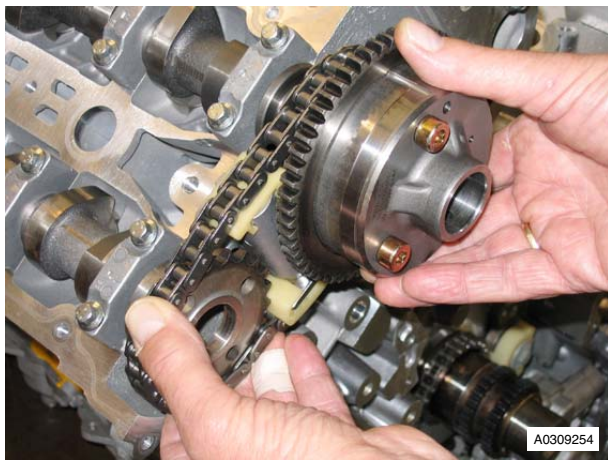

Figure 3
- Release and remove the two camshaft sprockets complete with the timing chain and tensioner from the camshafts (refer to Figure 3).